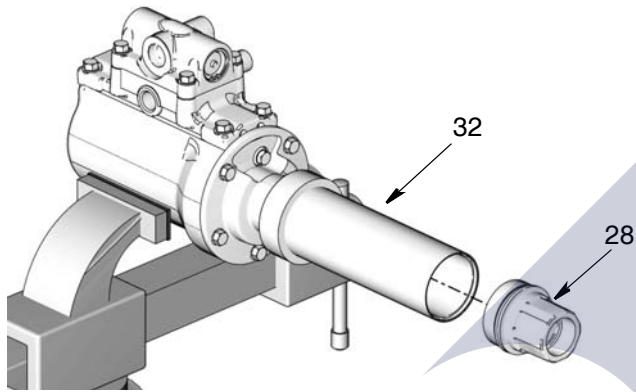

Fig. 2
- Secure a strap wrench around the fluid cylinder (32) and a large adjustable wrench on the intake valve housing (28). Turn the adjustable wrench counter clockwise to loosen and remove the valve housing (28) from the fluid cylinder (32) (Fig. 2).